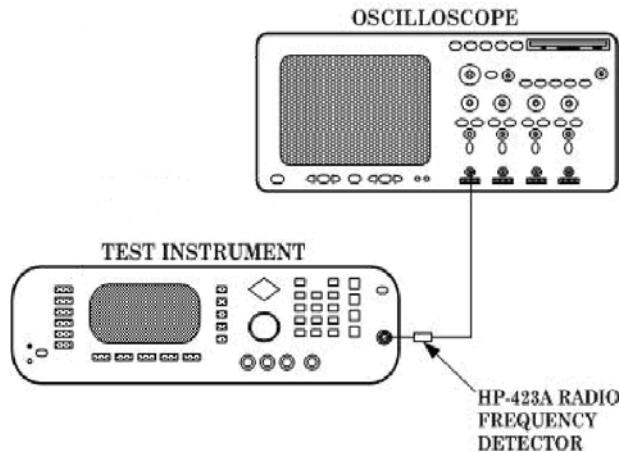

Figure 6. Pulse modulation hook-up.
(1) Connect equipment as shown in figure 6.